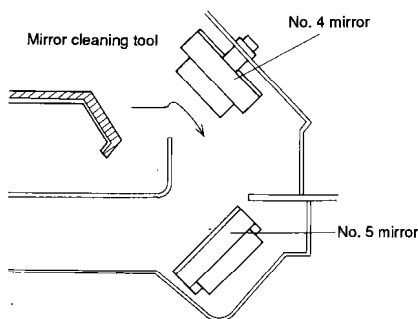

Figure 4-61
- 2) Remove the lens cover, and insert the mirror cleaning tool as shown in Figure 4-61.